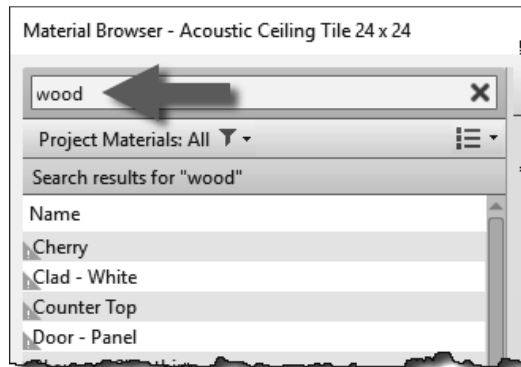

FIGURE 4-2.3 Sort by word search
**Word search** allows you to enter a term by which the *Materials* list is filtered. The image to the right (Figure 4-2.3) filters the *Materials* list down to any *Material* or *Category* containing the word “wood.”